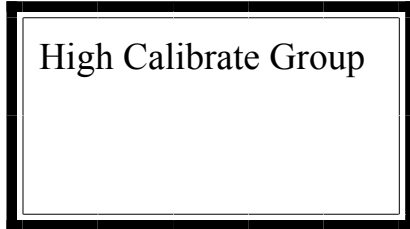

Figure 10a: Entering the High Calibrate Group
2) Locate the High Calibrate Group and press OPEN to enter into the Group's variables, Figure 10a.